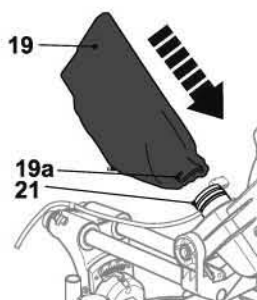

Fig. 11
- Squeeze the metal collar wings (19a) of the chip collection bag (19) and attach it onto the chip ejector opening (21) (Fig. 11).